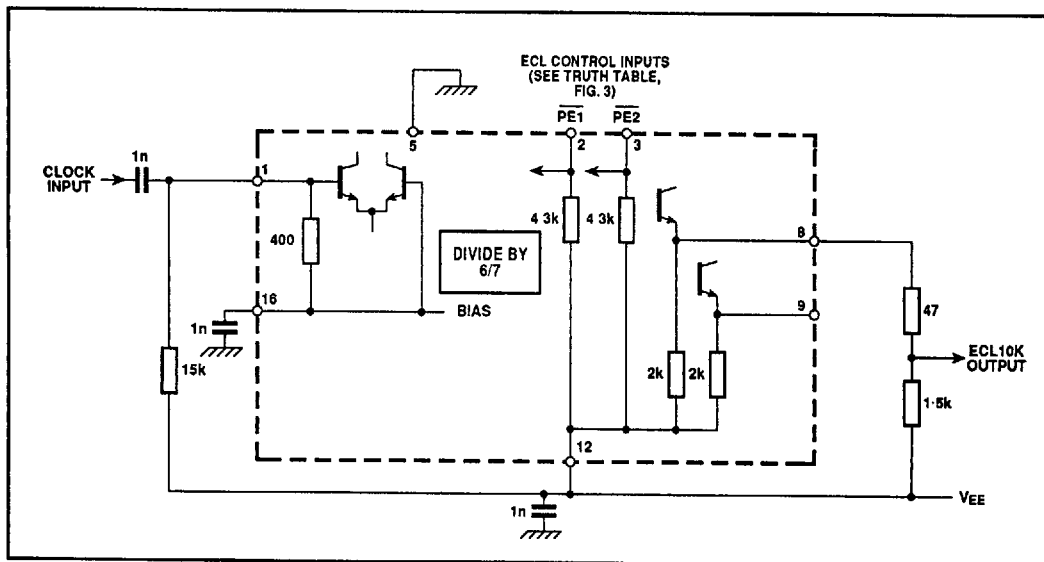

Fig. 7 Typical application circuit showing interfacing
4. The Q and  $\bar{Q}$  outputs are compatible with ECL10K but can be interfaced to ECL10K as shown in Fig. 7. There is an internal circuit equivalent to a load of 2kΩ at each output.